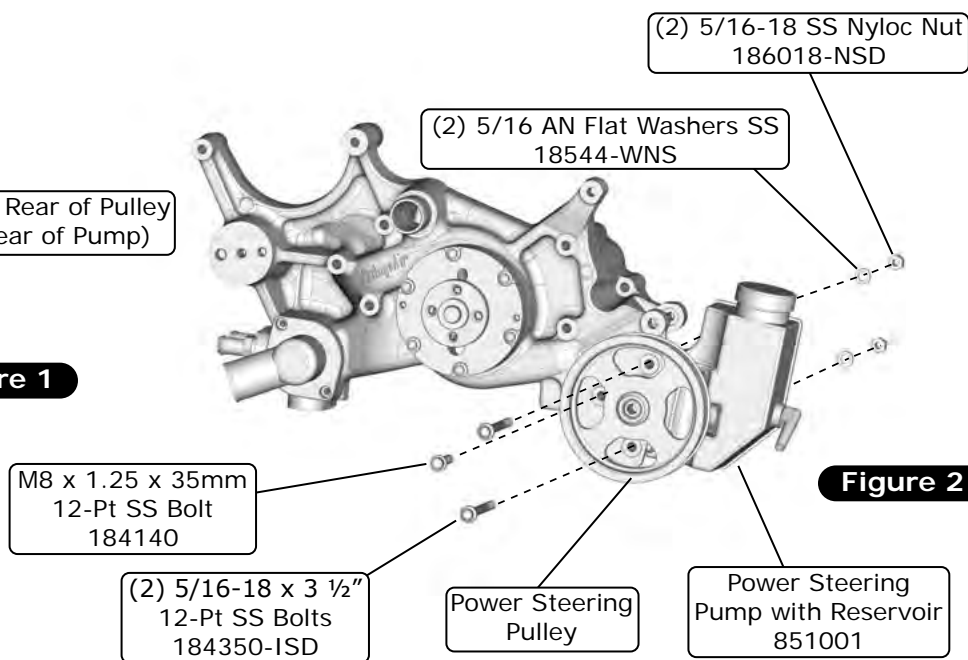

Figure 2
2. With pump body located behind main casting, align mounting holes of pump and casting and secure top and bottom holes with 5/16-18 x 3 1/2" 12-Pt SS bolts, washers and lock nuts as shown in Figure 2, below, torqued to 22 lb-ft.